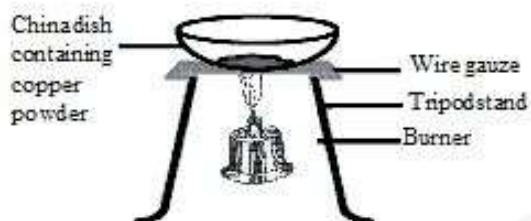

Fig 4.9. Oxidation of copper to copper oxide
- ☛ Heat about 1g of copper powder in a China dish (Fig 4.9)